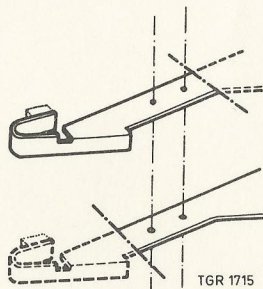

Fig. 4
- Cut the old and the new brake spring as shown in Fig. 4.